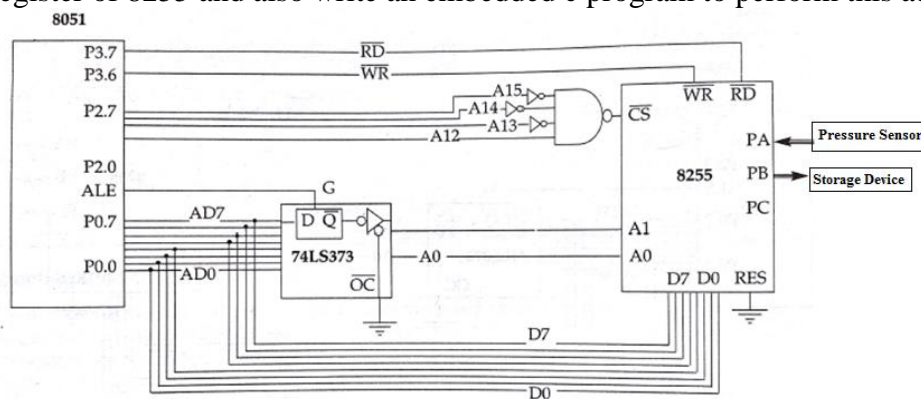

Fig. Q5A
- 5A.** A 8051 microcontroller is used to monitor a pressure sensor unit continuously. 8051 is connected to 8255 to expand the pins availability. The sensor unit is connected to Port A of 8255 as shown in Fig.Q5A. A storage device is connected to Port B of 8255. Data must be continuously received from temperature sensor and must be sent to this storage device for further processing. Compute the I/O port addresses assigned to ports A, B, C and control register of 8255 and also write an embedded c program to perform this action. **4**